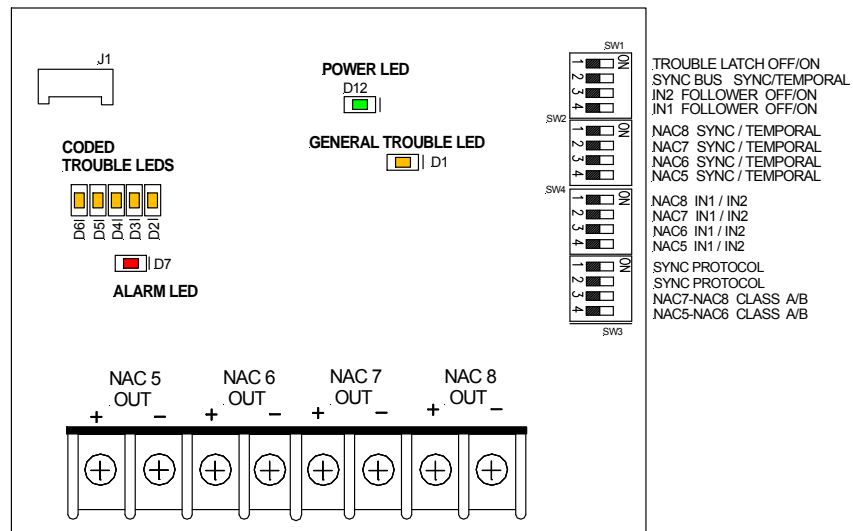

Figure 5: PS-EXP PC Board
Refer to Figure 5 for the locations of the terminal described in Table 1.
2. See Figure 5 for DIP switch locations and Table 2 for DIP Switch Selection and DIP Switch Settings.